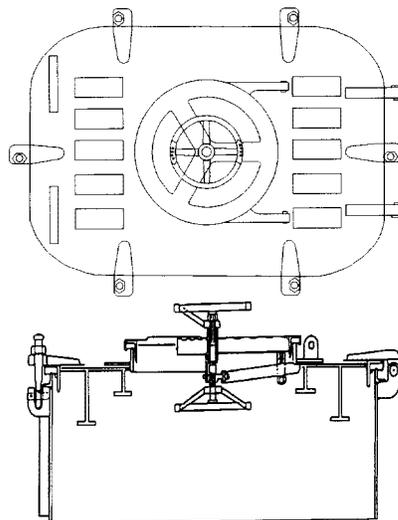

Figure 1-5. Raised Watertight Hatch with Scuttle
- e. Raised Watertight Hatches with Scuttles. (See figure 1-5.) These hatches are installed in interior and exterior areas where rapid access/egress is required. These hatches are usually provided in higher traffic areas than the raised watertight hatch, and are offset in a corner of a passageway or compartment. These hatches have escape scuttles to provide rapid access/egress, and are usually located above berthing compartments, manned and unmanned machinery spaces, and all deck levels requiring rapid access/egress.